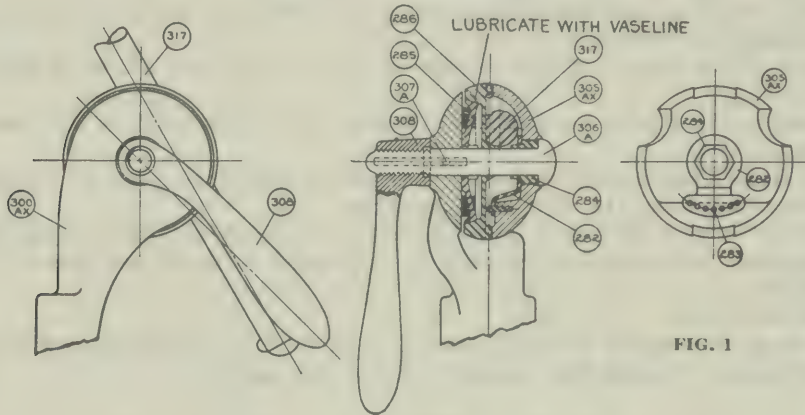

FIG. 1
Assembled construction of the clamping device is shown sectionally in Figure 1.
The recommended position for the Clamp Handle when tightened with moderate force (about 20 lbs.) is shown in Figure 1.
Should adjustment of Clamp Handle position be necessary, unscrew Clamp Handle (308) and remove Clamp Bolt (306A) and Clamp (305AX). Figure 1 illustrates the inside of this Clamp with Adjusting Plate (282) and Adjusting Screw (284).
To adjust the Clamp Handle clockwise (Fig. 1) shift Adjusting Plate (282) counter clockwise. One hold in Adjusting Plate (282) changes Handle 6° (about ½" at end of Clamp Handle). Shifting Adjusting Screw (284) one flat in Plate (282) changes Clamp Handle 36°. Reassemble as shown in Figure 1.
Assemble the various parts to the Head Rest Support (300AX) in the arrangement shown in Figure 1, and tighten Clamp Handle (308).